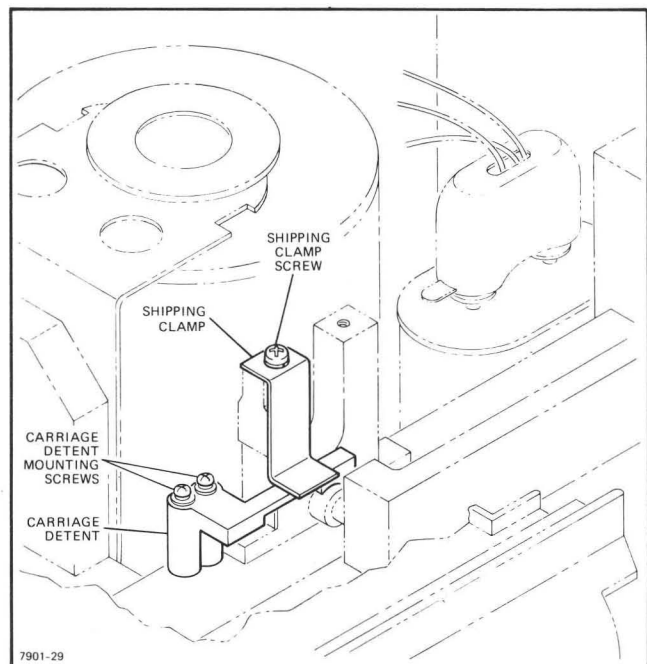

Figure 5-7. Carriage Detent
- h. Remove the carriage detent. (See figure 5-7.)